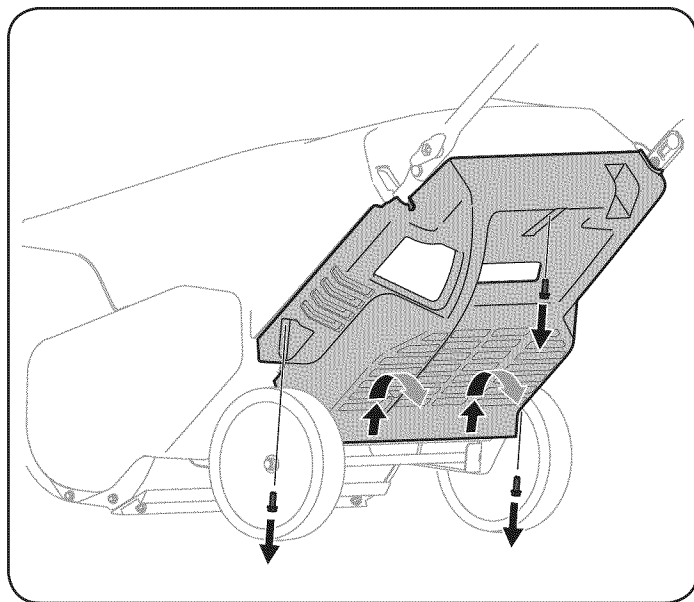

Figure 14
1. Remove the three screws that secure the lower panel. Remove the lower panel by lifting up on the panel to free the tabs at the bottom of the panel from the tab slots and then pull back. See Figure 14.